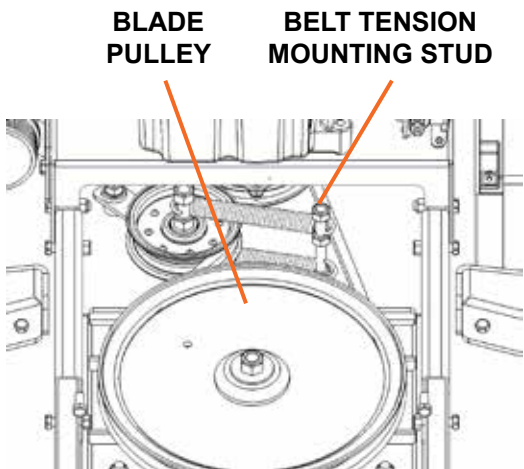

Figure 14
7. Using a 13mm wrench, remove the top nut from the belt tension spring mounting stud (see Figure 14).